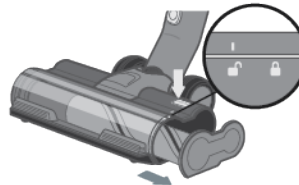

Figure 17
4. Rotate the cover plate of the Roller Brush Assembly down and slide out from the Electric Floor Brush. (Figure 17)